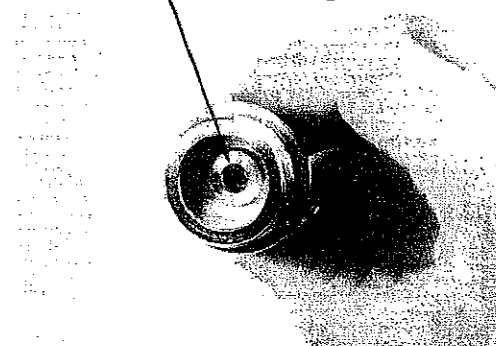

Fig. 12A
13. Viewing the main body through the internal cavity, you will find the recessed o-ring(29) through which the piston shaft moves. (See fig. 12A.)